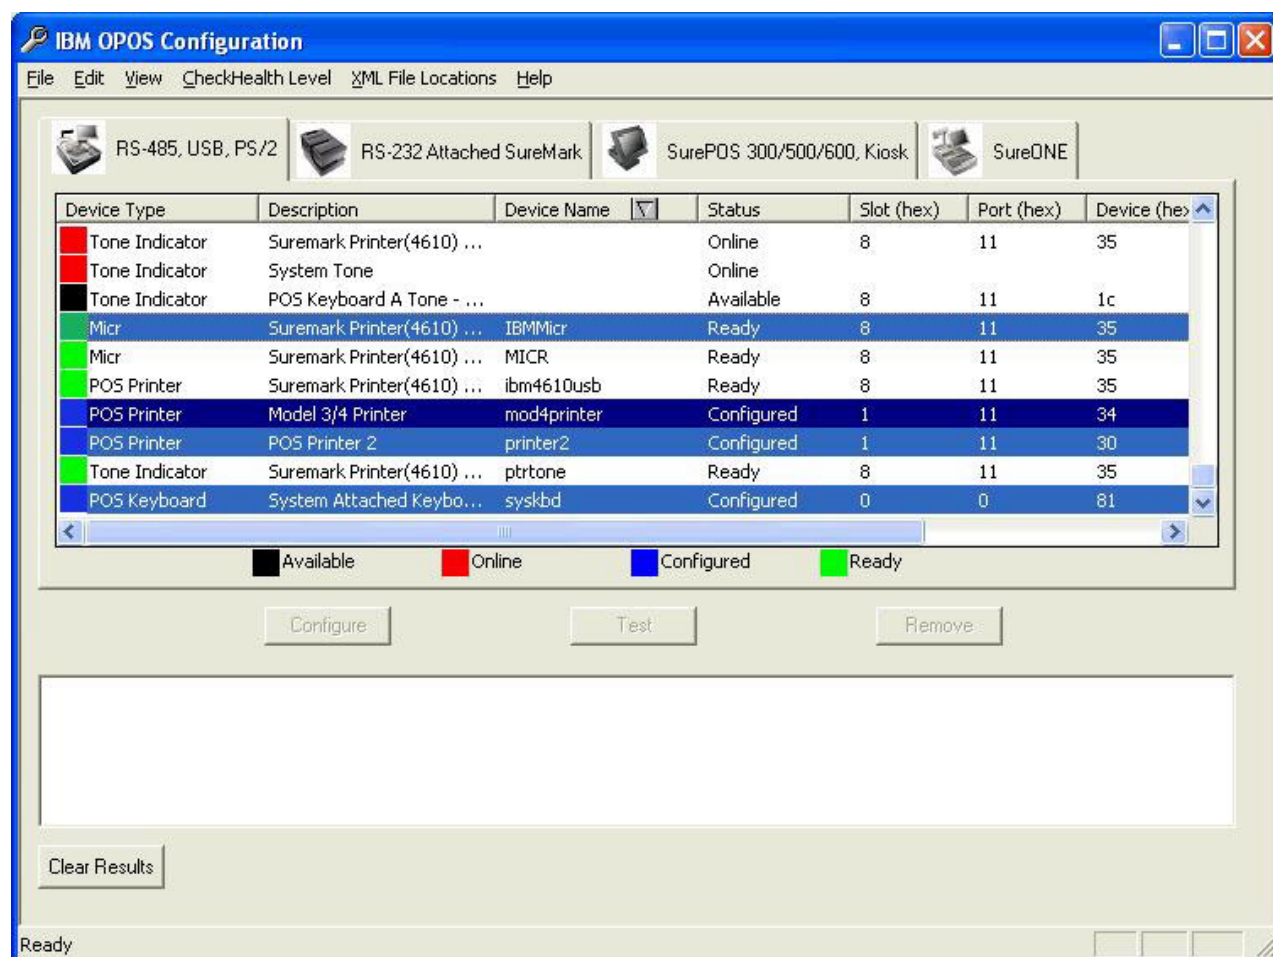

Figure 7. Selecting devices to export
1. Select the devices (on all the tabs) that you want to export. Use the **Shift** and **Ctrl** keys to select more than one. (See Figure 7 on page 27.)